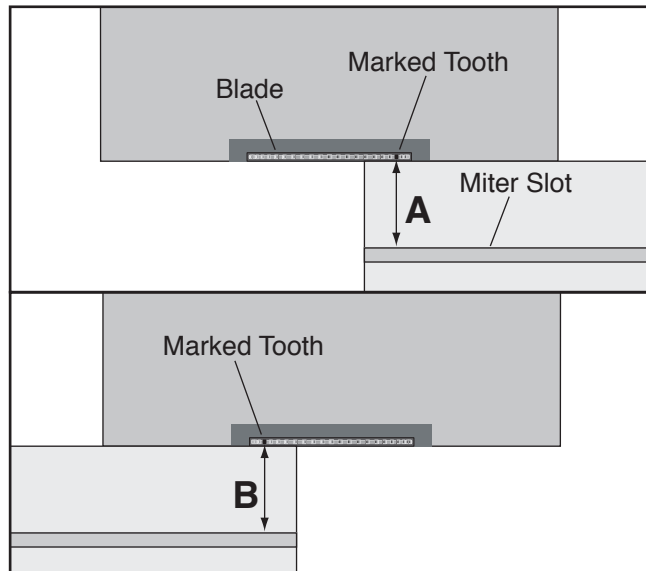

Figure 118. Measuring distance between table and blade.
4. Move the sliding table all the way back, and measure the distance "A" in **Figure 118**, between the marked tooth and the edge of the miter slot.
5. Rotate the blade 180°, move the sliding table all the way forward, and measure the distance between "B" in **Figure 118**.